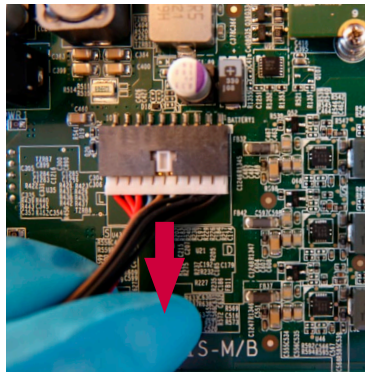

Figure 13 Disconnect the battery cable
k) Disconnect the battery cable (Figure 13)
Release the battery cable (see location on Figure 12) by pulling the grey part carefully away from the black part in the direction shown on Figure 13.